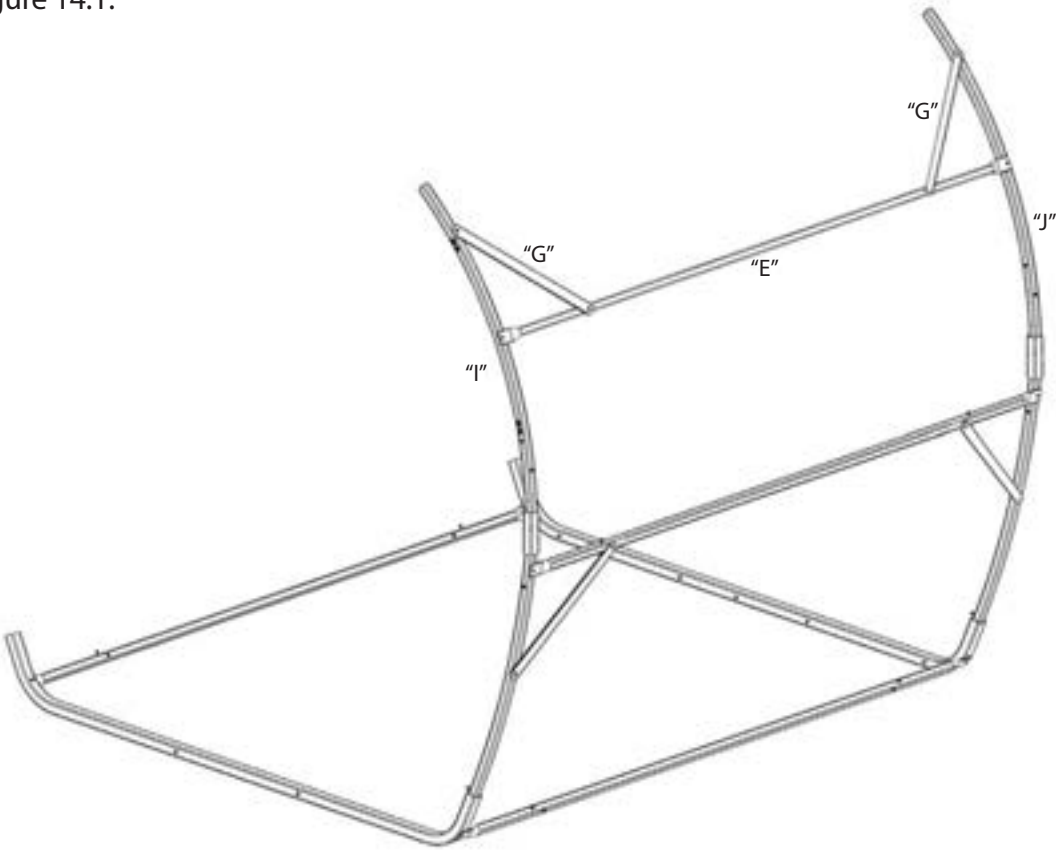

Figure 14.1
STEP 6: Install Section 2 that was created in Step 5, into Section 1 that was created in Step 3, resulting in the frame illustrated in Figure 14.1.